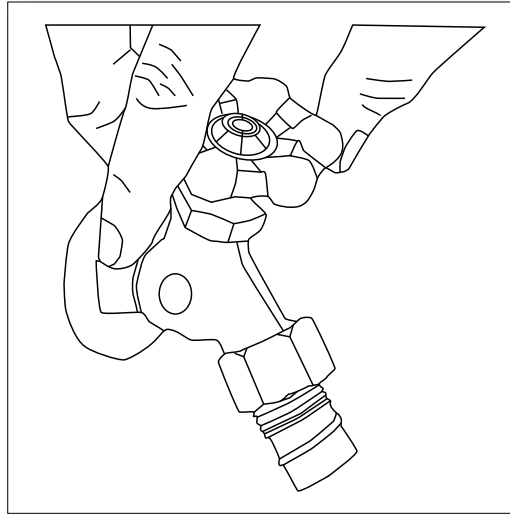

Fig. 17
**\*!Turn on the water supply at the faucet.!\*** (*Fig. 17*)